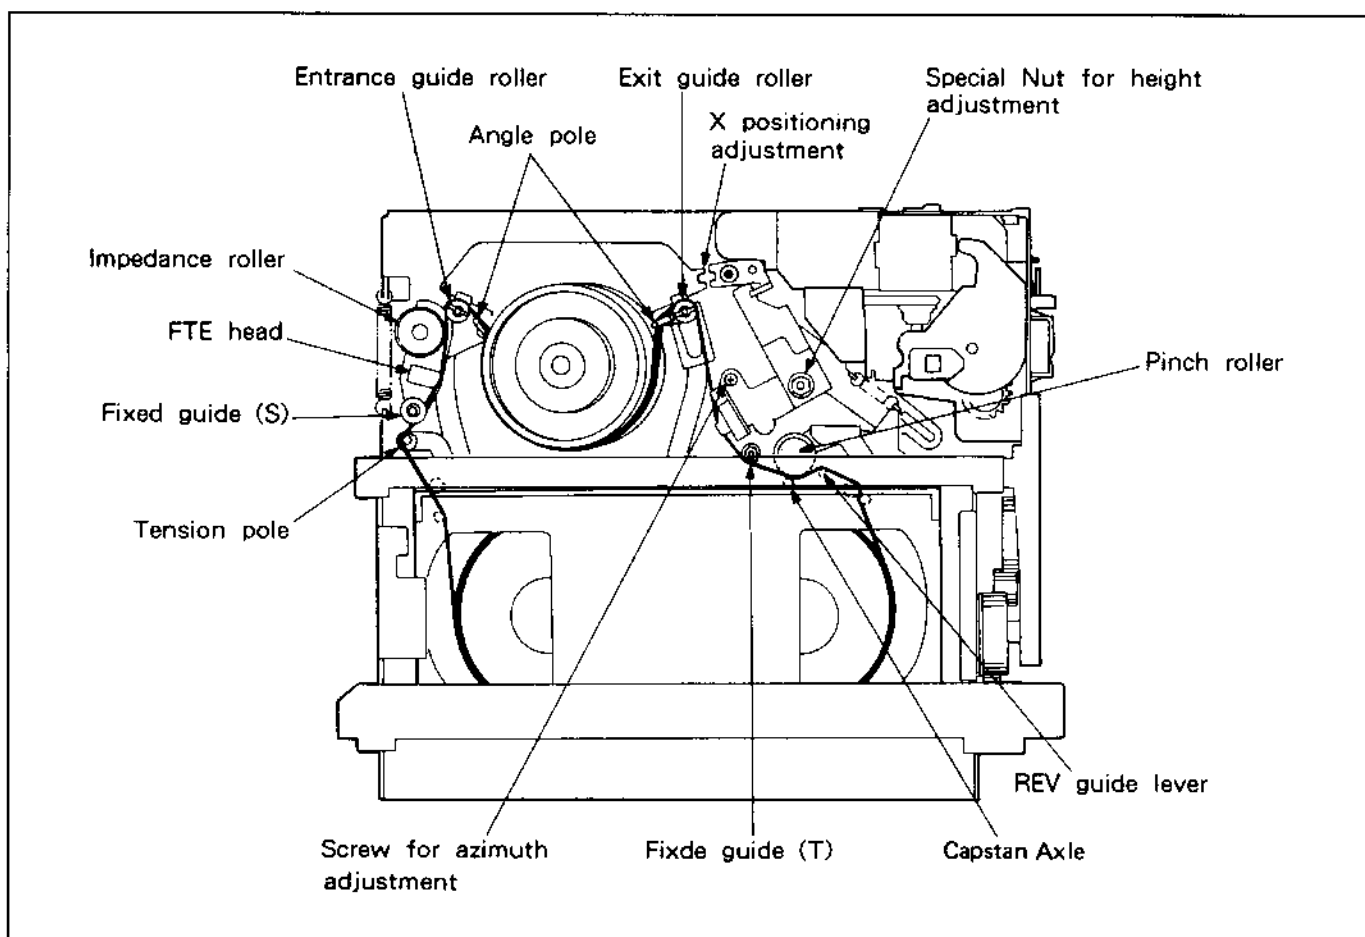

Fig. 5-4-1. Preparation for Adjustment
The tape path mechanism is precisely adjusted at the factory. Normally no readjustment is required, but checking and/or adjustment is necessary when parts of the tape path mechanism among those shown in the figure below (See Fig. 5-4-1.) have been removed or replaced after a long period of use.
- (1) Clean the tape transport surfaces. (See Fig. 5-4-1.)
- (2) Connect the oscilloscope. Connect the channel 1 probe to the envelope waveform test point, and the channel 2 probe to the SW25 (RF SW P) test point. During adjustment, apply a trigger to the L side of the SW25 (RF SW P) in order to monitor the waveform output from channel 1 of the video head.